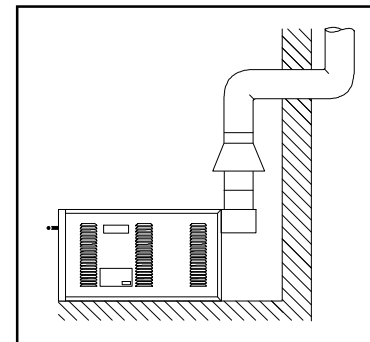

FIG.11 (ÉVACUATION NATURELLE)
- 1) ÉVACUATION NATURELLE (FIG.11)